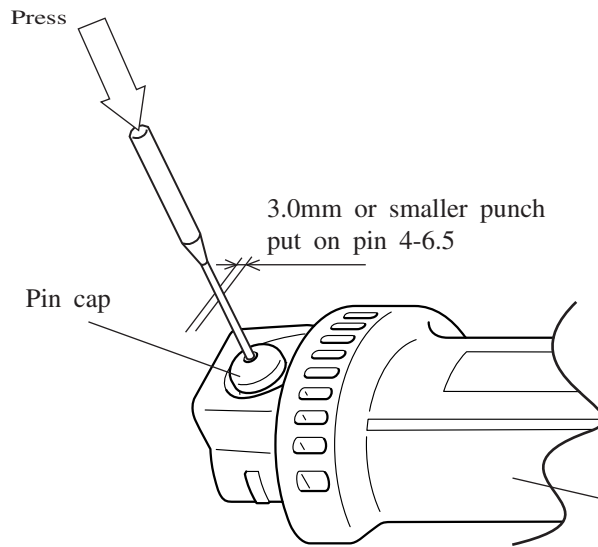

Fig. 1
- 1) Place housing (L) with pin cap facing up. See Fig. 1.
- 2) Place 3.0mm or smaller punch on top of pin 4-6.5. See Fig. 1.